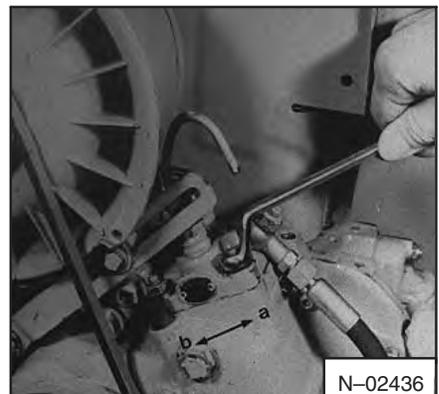

Fig. 7A-21 Adjusting Timing
- If fuel adjustment is not correct at high altitudes (excessive black smoke) put the levers in neutral position. Remove the cap and copper washer from the fuel adjustment screw (Fig. 7A-22). Turn the screw in or out until there is a small amount of black smoke coming from the muffler. Tighten the lock nut on the screws.